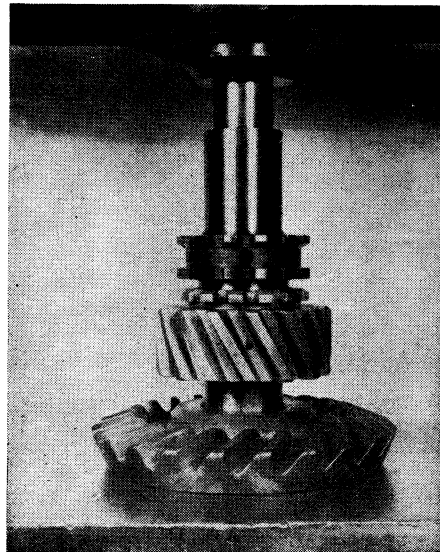

Fig. 23 Pressing cross shaft into bevel gear
4. Press cross shaft squarely into bevel gear, Fig. 23. Gear must be firmly against cross shaft shoulder. To make installation easier, bevel gear may be heated in oil to 200-250° F.